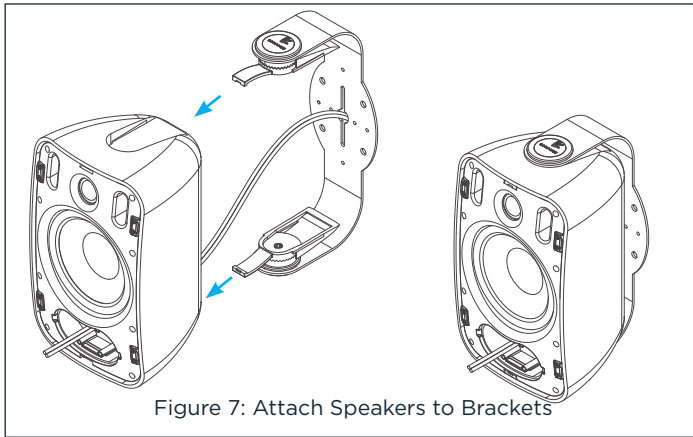

Figure 7: Attach Speakers to Brackets
6. Slide the speakers onto the brackets until the locks snap into place (see Figure 7).